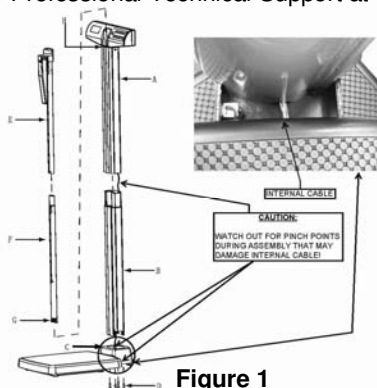

Figure 1
Plug the optional adapter (NOT INCLUDED) into the base of the scale and then into the outlet for power. Please refer to page 3 for information regarding the adapters available for use with this scale. When an adapter is used, the battery icon will not be displayed. The location of the adapter power jack on the scale (C) is shown below in Figure 1.
1. Locate cable inside the upper column (A) and then feed it through the lower column (B).
2. After the cable is fed through (B), then plug the cable into the scale base (C).
3. Connect columns (A) and (B), then secure to base (C), using the 4 screws provided (see Figure 1).
4. Connect upper height rod (E) to lower height rod (F), then slide it into the slot at the top of the upper column (H).